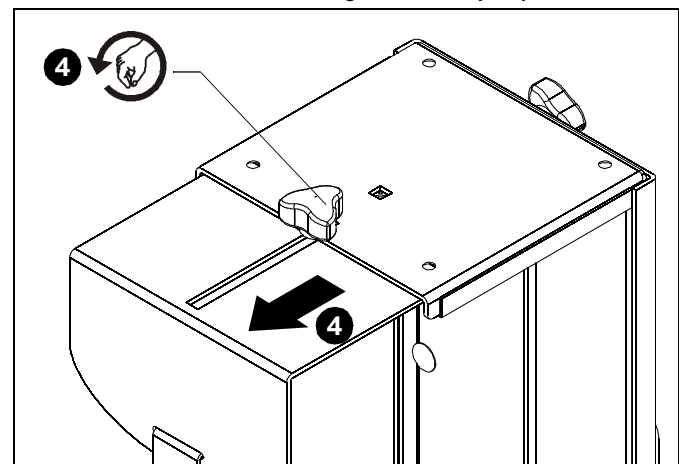

Figure 4
5. Loosen adjustment knobs on top and bottom of the mount and slide flanges in order to allow for the CPU to be inserted for mounting. (See Figure 4)
NOTE: Top and bottom knobs can be removed and inserted into the front square holes in order to allow for large CPU's to be installed. (See Figure 4)